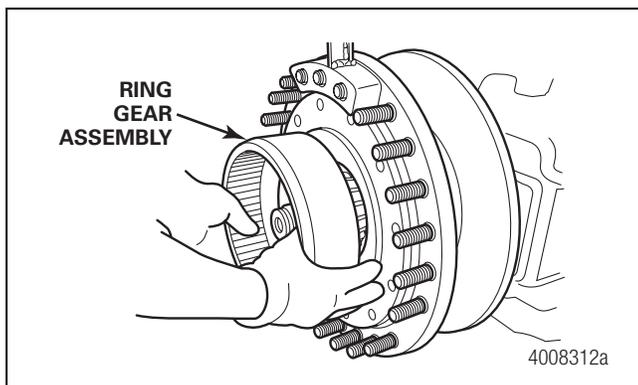

Figure 3.8
4. Remove the ring gear assembly from the spindle. Figure 3.8.